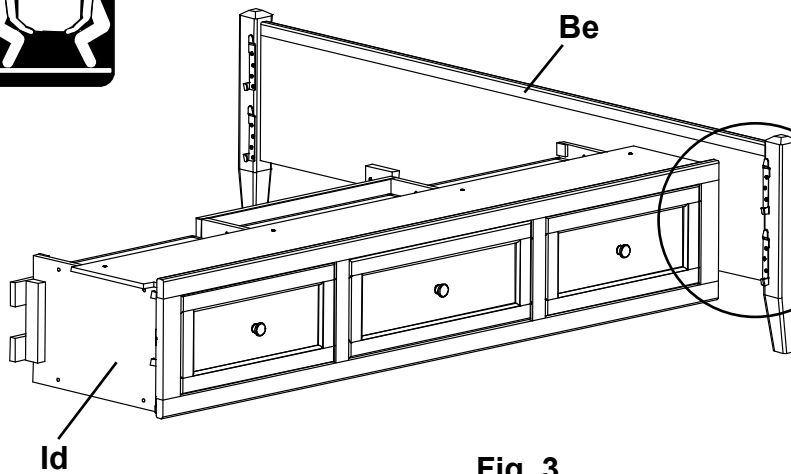

Fig. 3
- To attach the Footboard (Be) to the Pedestal Assembly (Id), align the Brackets and slide the Pedestal Assembly down on to the Footboard (Be). See Figures 3 and 3a.